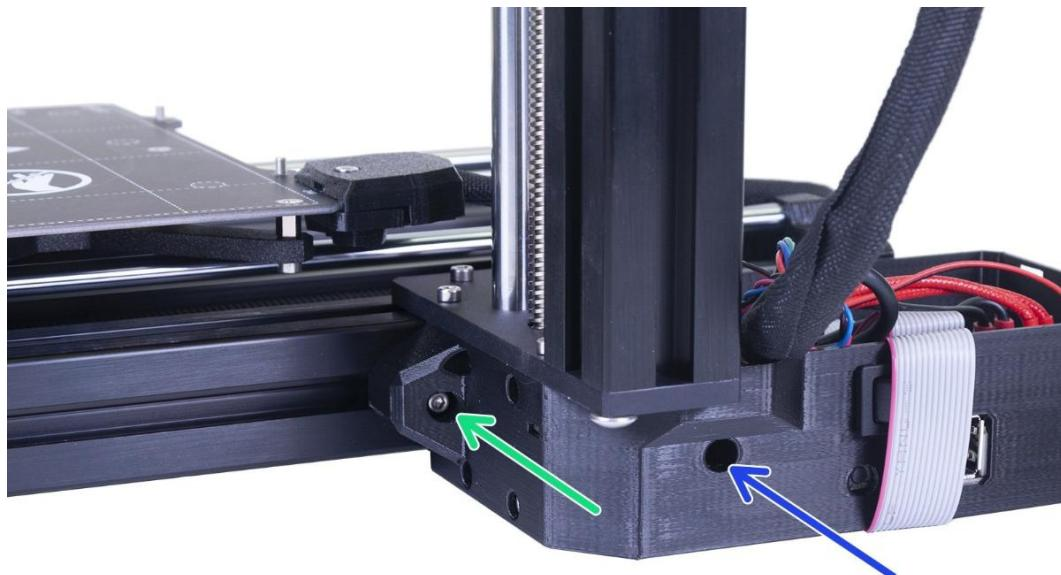

Figure 5.1.19
**B:** As shown in Figure 5.1.19. The M3x40 screw on the side.
**C:** As shown in Figure 5.1.19. The M3x20 screw on the side.